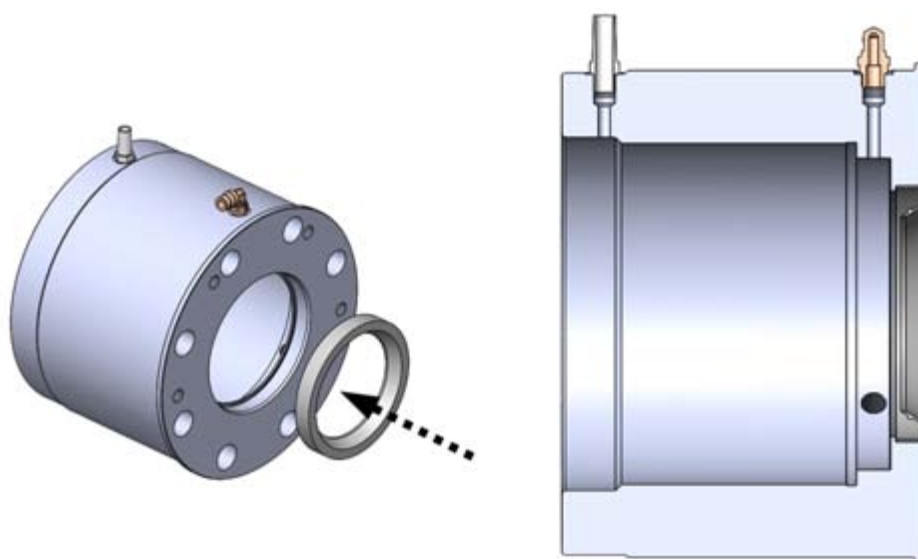

Figure 15. Installing the shaft seal into the bearing housing and a cross-section of the installation
4. Lubricate the inner rims of the bearing housing and press the shaft seal into the bearing housing, making sure that it is correctly oriented (figure 15).